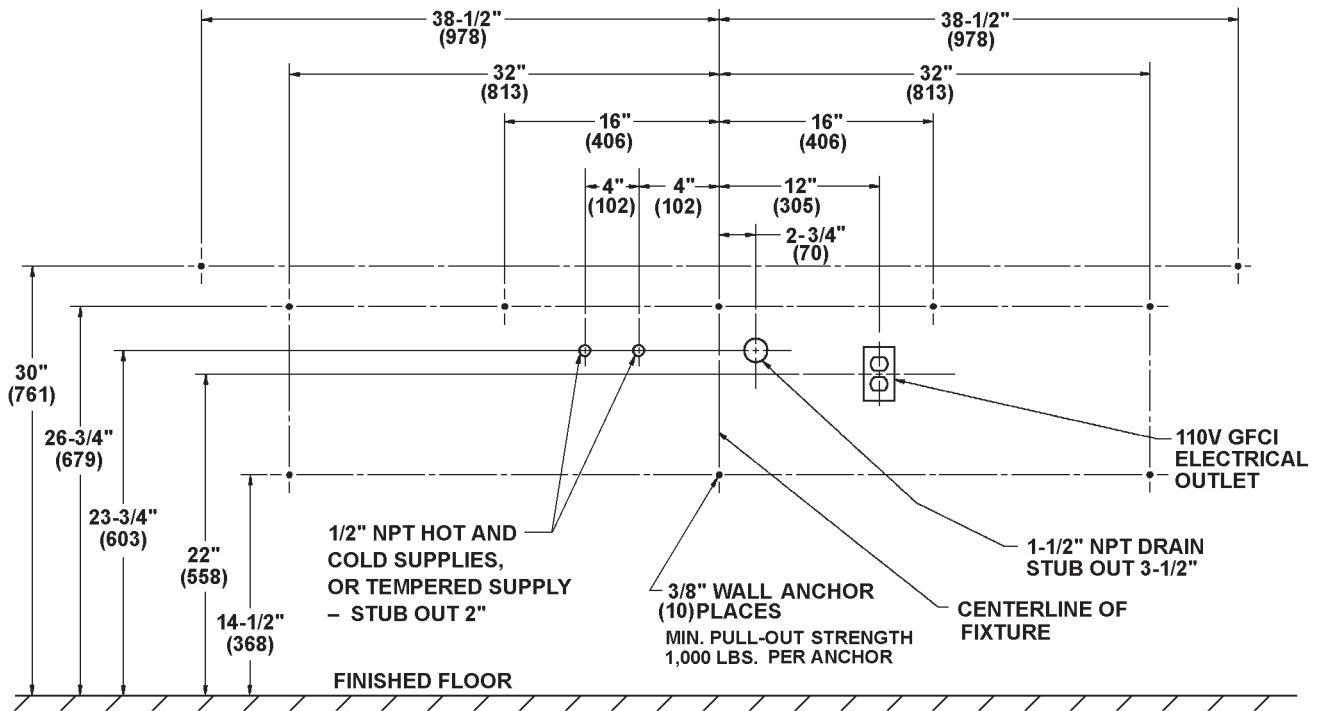

Figure 1a
Note: See Figure 1 (below), and Figures 1A and 2 (on page 6) when roughing in the Express®.
-  **IMPORTANT:** Dimensions shown in Figure 1 are for Juvenile Height (grades Pre-K thru 5 or 6) and in Figure 1A for Juvenile Height (grades 6 thru 8 or 9)